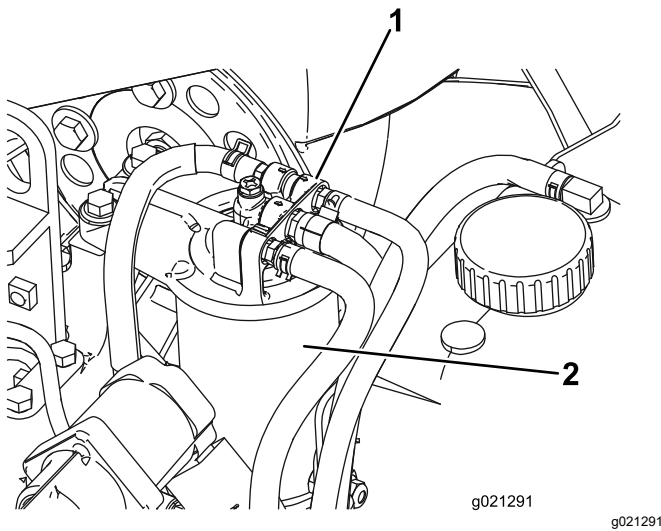

Figure 95
1. Clean the area around the fuel-filter head (Figure 95).
2. Remove the filter and clean the filter head mounting surface (Figure 95).